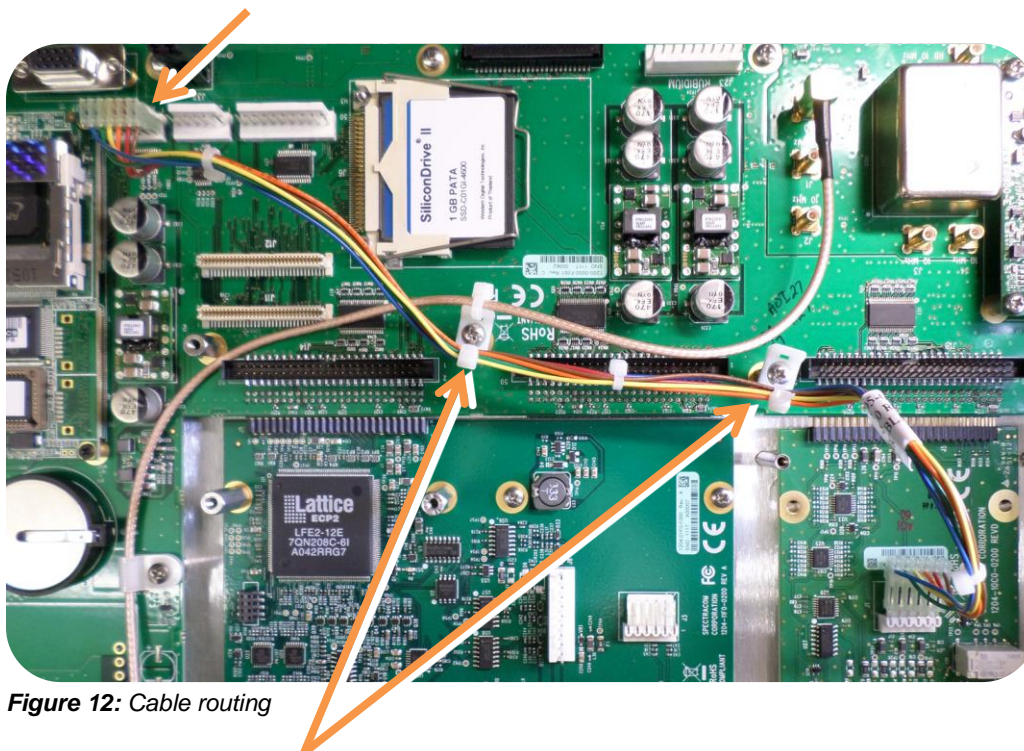

Figure 12: Cable routing
- (b) Using the supplied cable ties, secure the cable, part number 8195-0000-5000, from the option card to the white nylon cable tie holders fastened to the mainboard (see *Figure 12*).